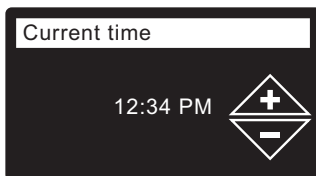

FIG. 30
- 5. CURRENT TIME** Press the DOWN (▼) or UP (▲) buttons to set the current time (See Figure 30). Hold the button down to rapidly advance. Be sure that AM or PM is correct. If the system units were set to metric in Step 3, the clock will be in 24-hour format.